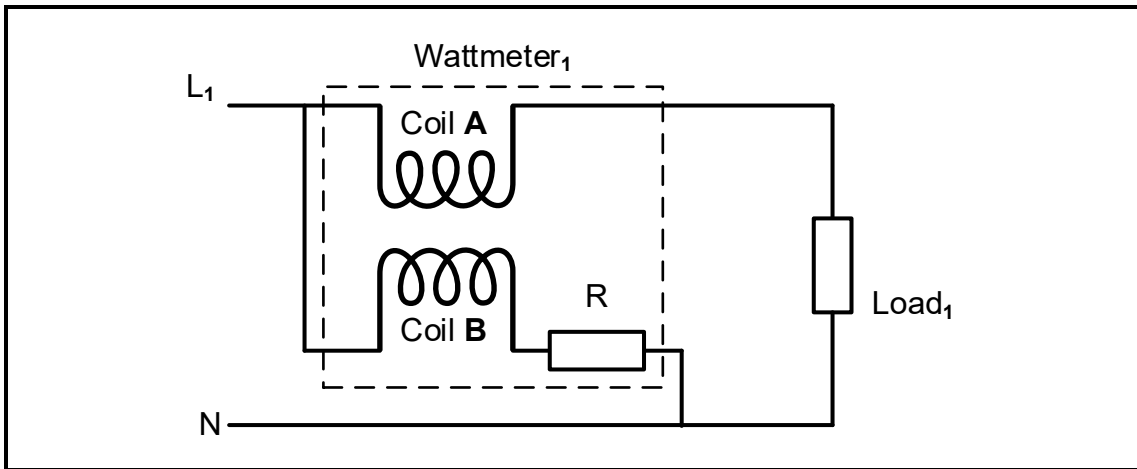

FIGURE 4.6: WATTMETER CONNECTION
4.6 FIGURE 4.6 below shows the connection of an analogue wattmeter to one of the phases of a three-phase load. Answer the questions that follow.
- 4.6.1 Identify coil **A** in FIGURE 4.6 above. (1)
- 4.6.3 Describe the function of coil **B** in FIGURE 4.6 above. (2)